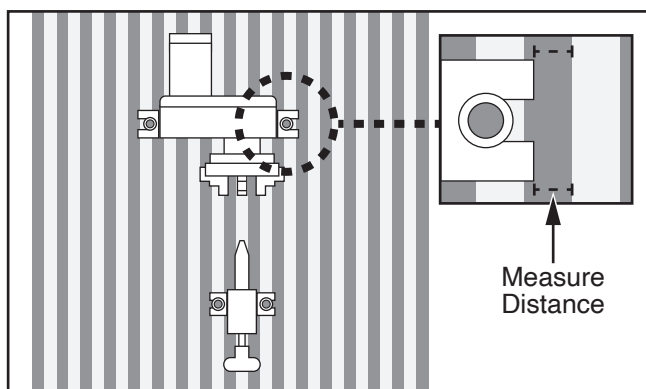

Figure 8. Location for measuring mount alignment.
7. Measure distance from both corners on one side of rotary table mount to nearest available T-slot (see **Figure 8**).